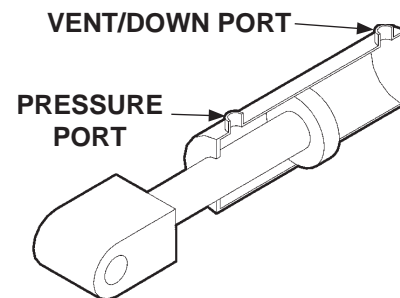

FIG. 47-1
5. Check the hydraulic cylinder. With the platform on the ground, remove the breather plug or vent line from the vent/down port of the cylinder (**FIG. 47-1**). Raise the platform even with the bed. Allow pump motor to run two seconds more while you watch for hydraulic fluid at the vent/down port. A few drops of hydraulic fluid escaping the vent/down port is normal; however, if it streams from the vent/down port, piston seals are worn. Replace seals.